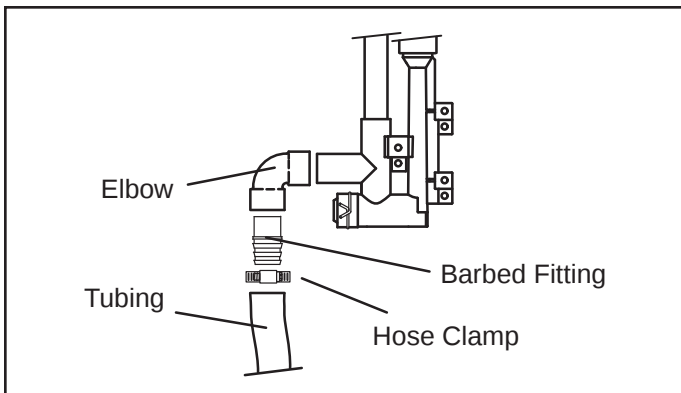
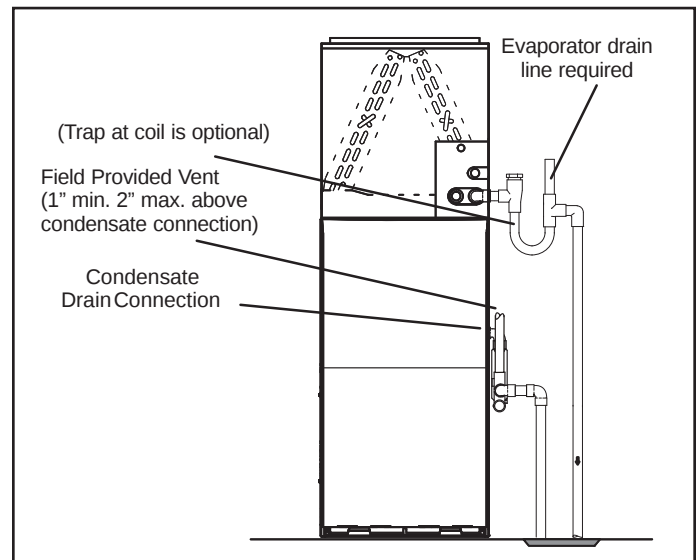
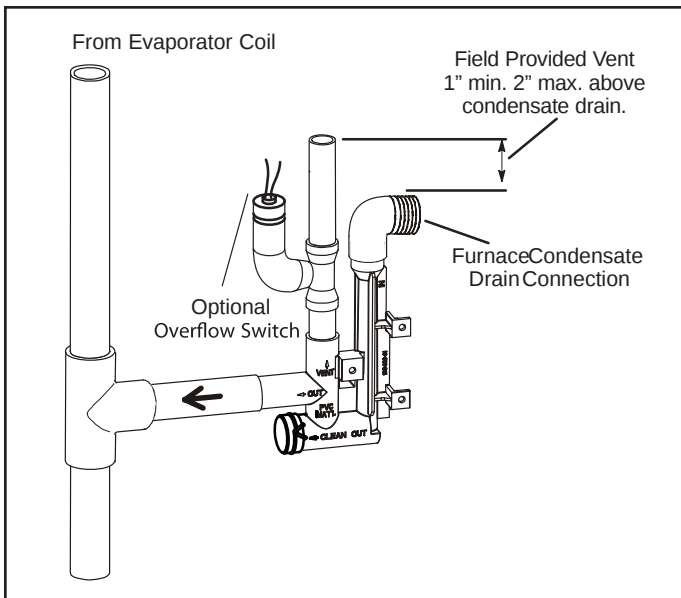
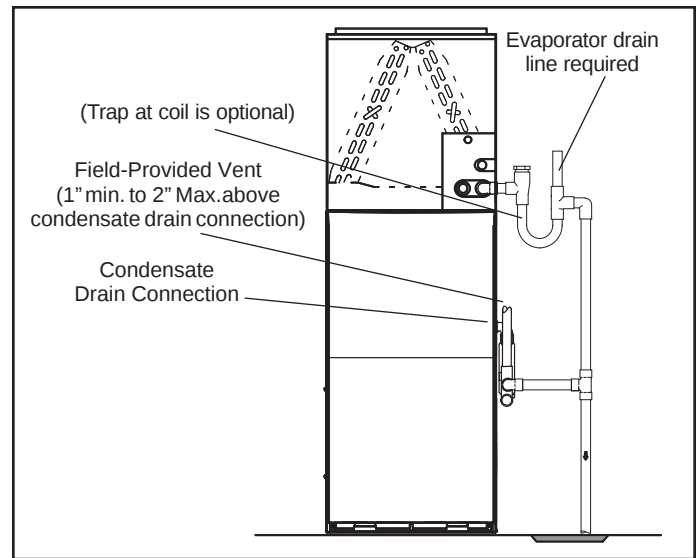

Figure 41. Field-Provided Drain Components
Figure 40. Furnace with Evaporator Coil Using a Separate Drain
Figure 44. Condensate Trap With Optional Overflow Switch
Figure 43. Furnace with Evaporator Coil Using a Common Drain
5. Figure 40 and Figure 41 show the furnace and evaporator coil using a separate drain. If necessary the condensate line from the furnace and evaporator coil can drain together. See Figure 43 through Figure 44.
Upflow furnace (Figure 40) - In upflow furnace applications the field provided vent must be a minimum 1" to a maximum 2" length above the condensate drain outlet connection. Any length above 2" may result in a flooded heat exchanger if the combined primary drain line were to become restricted.
Horizontal furnace (Figure 41) - In horizontal furnace applications the field provided vent must be a minimum 4" to a maximum 5" length above the condensate drain outlet connection. Any length above 5" may result in a flooded heat exchanger if the combined primary drain line were to become restricted.